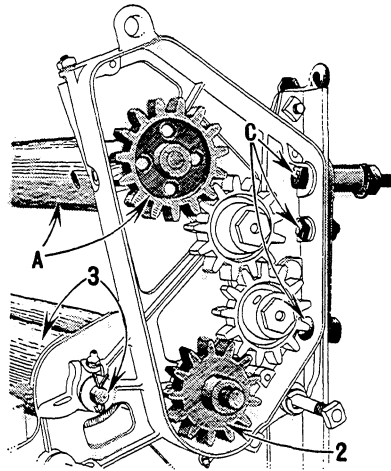
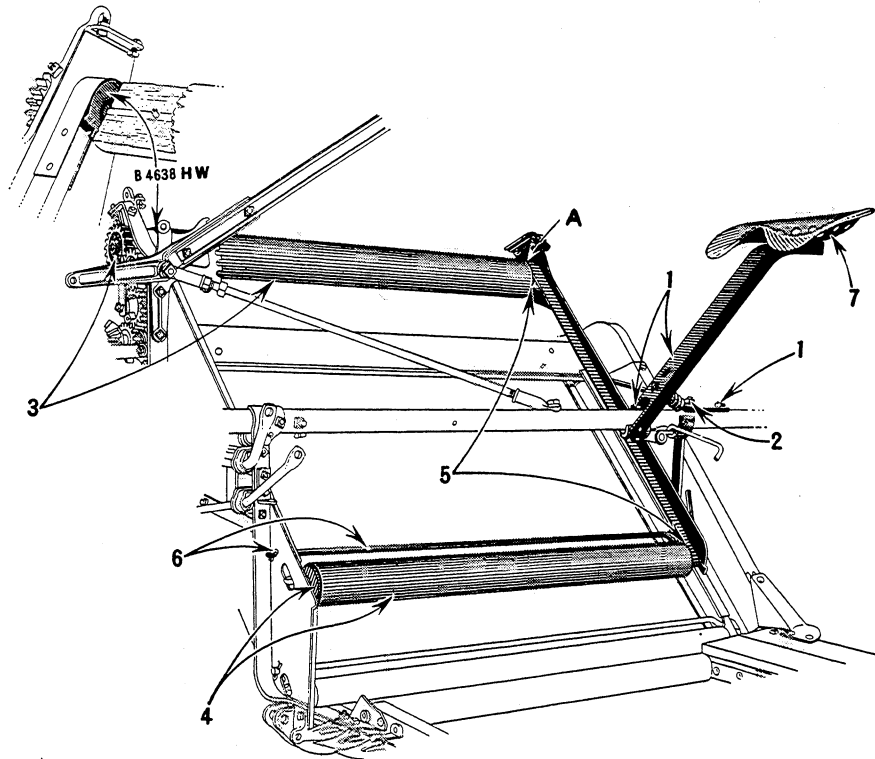
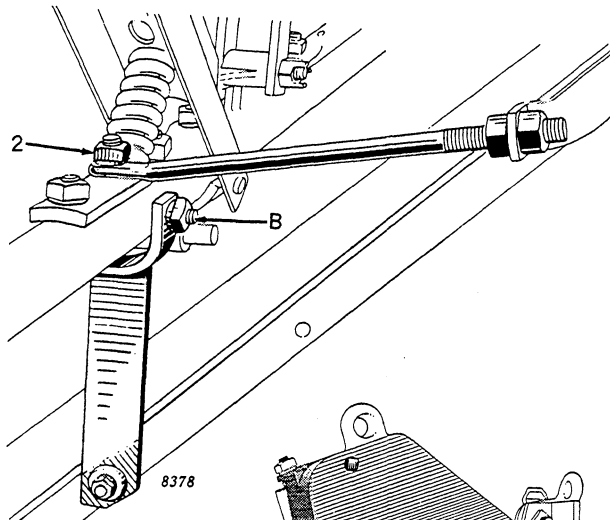

Figure 65
Figure 68
Figure 69
2. (Figures 65 and 66) Remove intermediate gear and slip lower elevator drive roller through rear elevator gear bracket and screw spur gear onto front roller gudgeon as shown, Figure 65. Roller bearings for front and rear of this roller are packed in twine can.
3. (Figures 65 and 66) Slide deck roller through rear bracket and secure at front end with cotter.
1. (Figure 68) Set seat standard so that notch at lower end sets over and around seat pipe. Insert support bracket (B943HW) into hole in leg of standard toward platform. Insert support bracket (B942HW) into hole in leg of standard toward elevator, bring curved portion of the two brackets together around bottom of seat pipe and bolt to pipe. Bolt spring support loosely to top side of seat pipe.
2. (Figures 68 and 69) Put rear upper elevator in place and secure with bolt through seat pipe and seat spring bracket.
3. (Figure 68) Put upper roller through front elevator bracket and screw gear tight on gudgeon ("A," Figure 65). Be sure washer (B4638HW) at front end is in place as shown in Figure 68.
4. (Figure 68) Set lower roller in front elevator with B50HW washer between slide box and roller, the lug on the washer locks on the bottom side of slide box.
5. (Figure 68) First, slip lower roller in slide box and then upper roller in wood bushing in rear elevator. Place washer on upper roller between roller and wood bushing with lugs on washer in holes in bushing at "A," Figure 68. Bolt rear upper elevator lower support in place at "B," Figure 69.
6. (Figure 68) Insert canvas tightener lever rod. Replace cotter pin in front end.
7. (Figure 68) Bolt seat to seat standard.
5. (Figure 71) Bolt tilting lever to front elevator post, see "C," Figure 65. If control levers are used, attach tilting lever crank at this time. See instructions 2, Page 66. If elevator post extension is used, see Page 70.